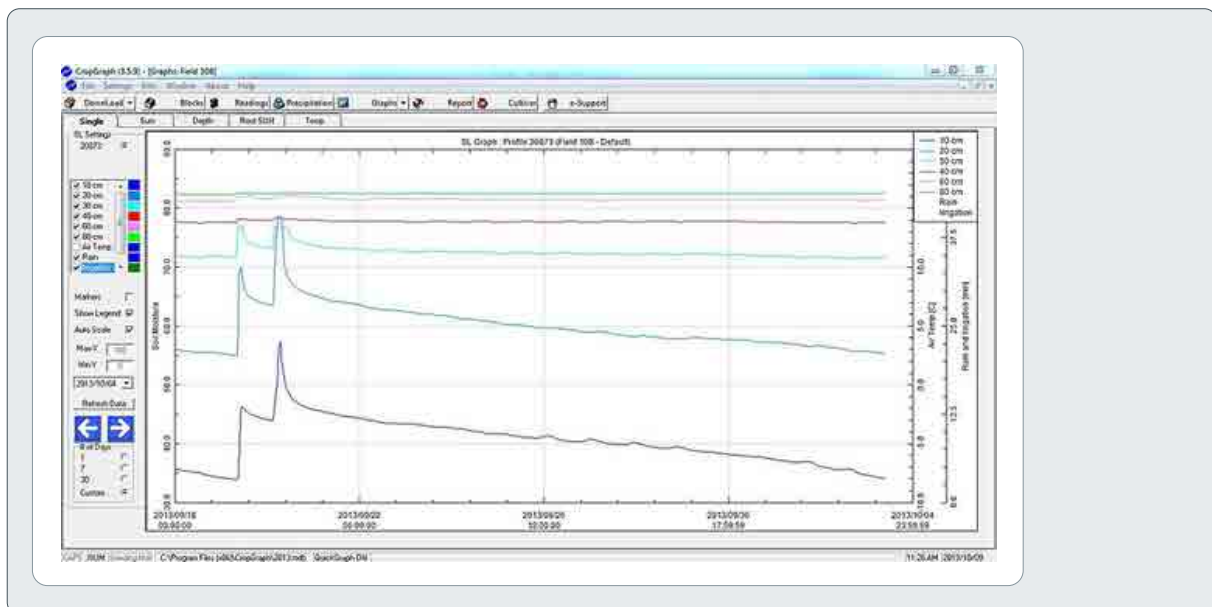

Figure 3: AquaCheck CropGraph example
- Step 3: The Aquacheck server offers the user easy access to the data via internet browser, and allows the user to view multi-layer soil moisture dynamics for the entire root zone. Plots of probe data is available for easy interpretation, as shown in Figure 3.